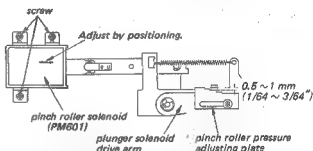

Fig. 3-8. Pinch roller solenoid (PM601) position adjustment
1. Loosen the three solenoid holding screws shown in Fig. 3-8.